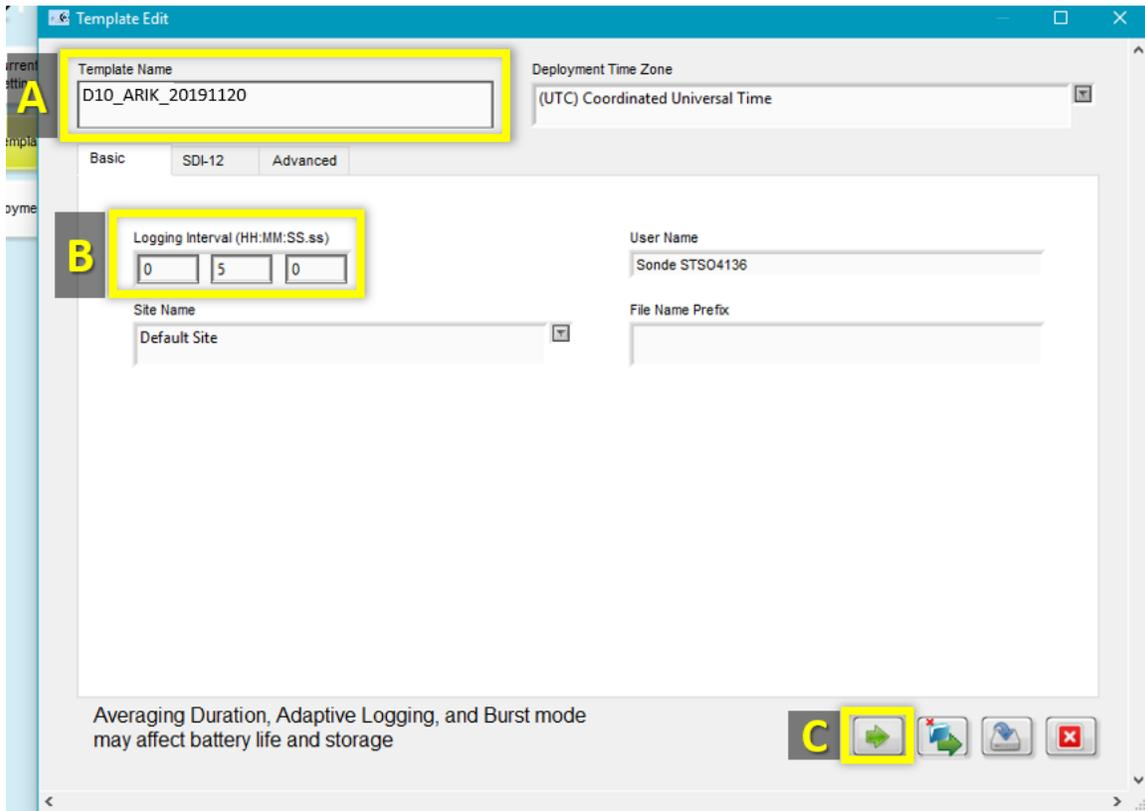

Figure 6. Set up the Template for Logging
4. In the Template Edit window, update the **Template Name** to “**DXX_SITE_yyyymmdd_Serial#**” (A in **Figure 6**) and set the **Logging Interval** to **five (5) minutes** (B in **Figure 6**). Ensure the **Deployment Time Zone** is **UTC** (Coordinated Universal Time). When complete, click the green arrow at the bottom of the pop-up window to continue (C in **Figure 6**).